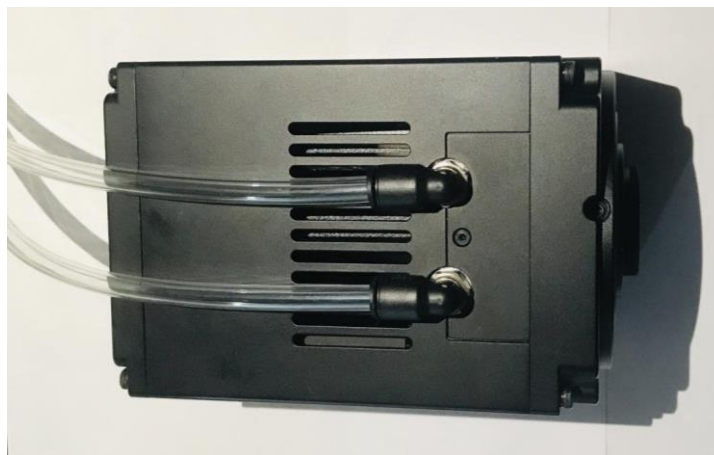

Figure 4-2
- (1) Place the camera on a stable workbench;
- (2) Connect the water cooling pipe to the water pipe joint on the camera and make sure it is inserted in place, as shown in Figure 4-2 below;